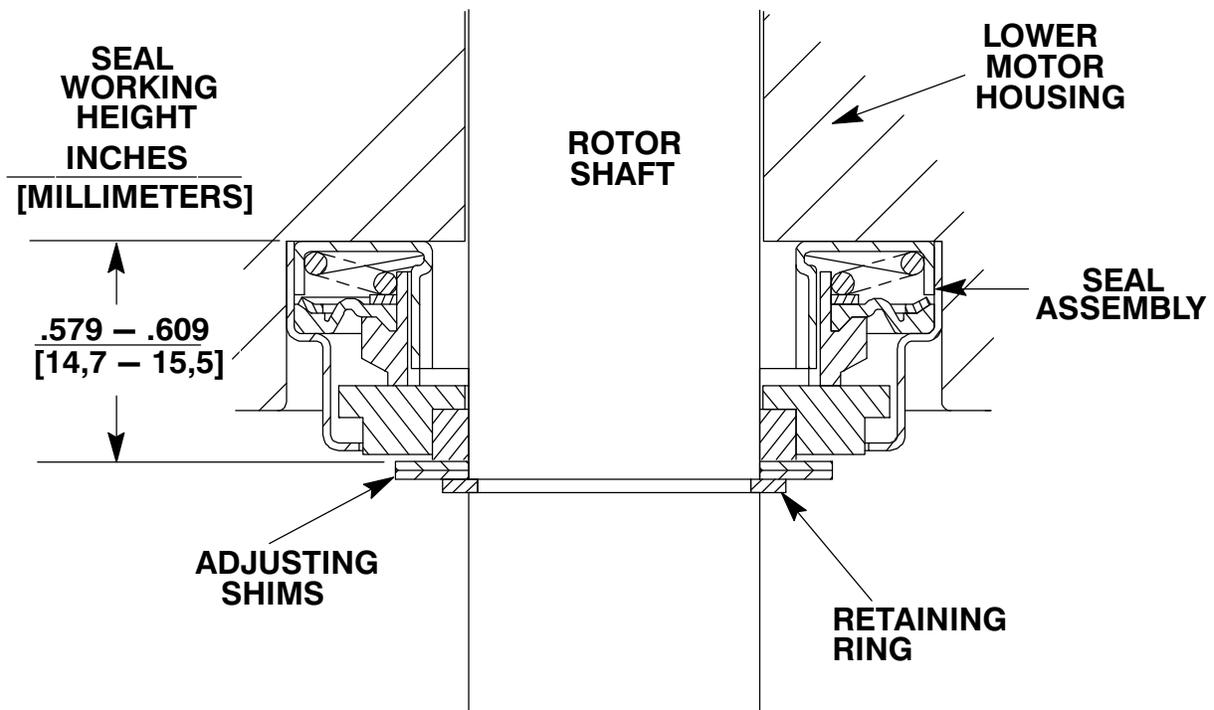

Figure C-3. Upper Seal Assembly
mine the required shim thickness. This distance is measured from the bottom of the bore in the intermediate to the motor side of the retaining ring (36). Select the required combination of shims to obtain a seal working height of 0.579 to 0.609 inches as shown in Figure C-3.